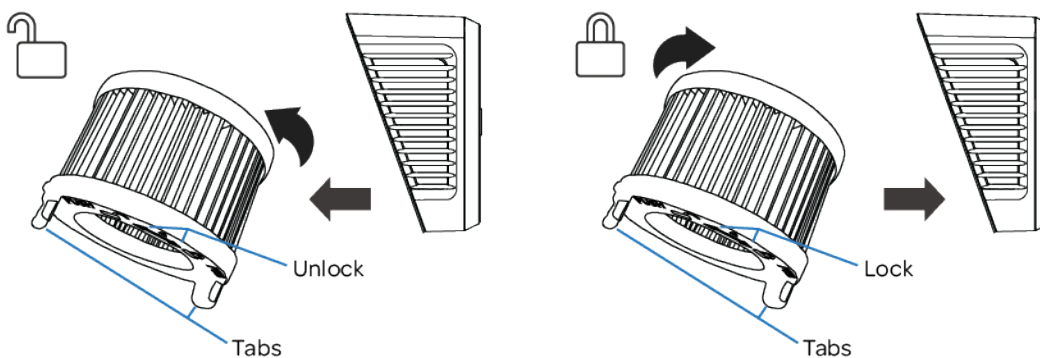

Figure 13
3. Unlock the Exhaust HEPA Filter from the Exhaust HEPA Filter Cover by firmly grasping the (2) black tabs on the filter and turn to the left to release. (Figure 13)